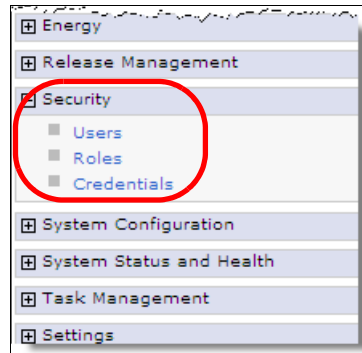

Figure 4-8 Security tab in the Navigation area
- Log in to the Director Console with an administrator ID. Click **Security** → **Users** in the Navigation area as shown in Figure 4-8.